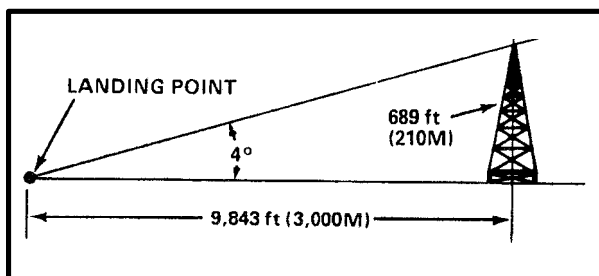

Figure 4-5. Maximum Angle of Approach (Night)
**b. Night Approach.** Within the night approach and exit path, the maximum obstruction angle should not exceed 4 degrees measured from the center of the landing point to a distance of 3,000 meters (9,843 feet) (Figure 4-5). The maximum obstacle height at 3,000 meters is 210 meters (689 feet). The field expedient formula is that for every meter of vertical obstacle, you must have 14 meters of distance from the center of the landing point to the obstacle. That is, a landing point must be 280 meters from a 20-meter tree if the helicopter must approach or exit directly over the tree. Another night operation planning consideration is the helicopter approach and exit path area and the maximum obstacle height within that area. Remember, this criteria applies to both the approach path to the landing point as well as the exit path from the landing point and exit path.